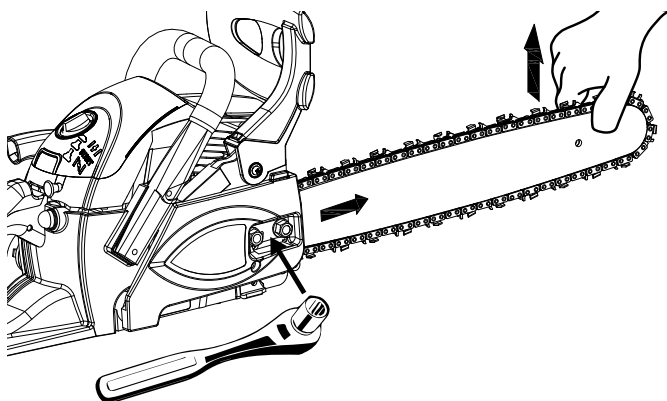

Fig. 31
6. While holding up the tip of the bar, tension saw chain by turning the tension screw clockwise (Right) until the tie straps just touch the bottom side of the bar rail (Fig. 31).